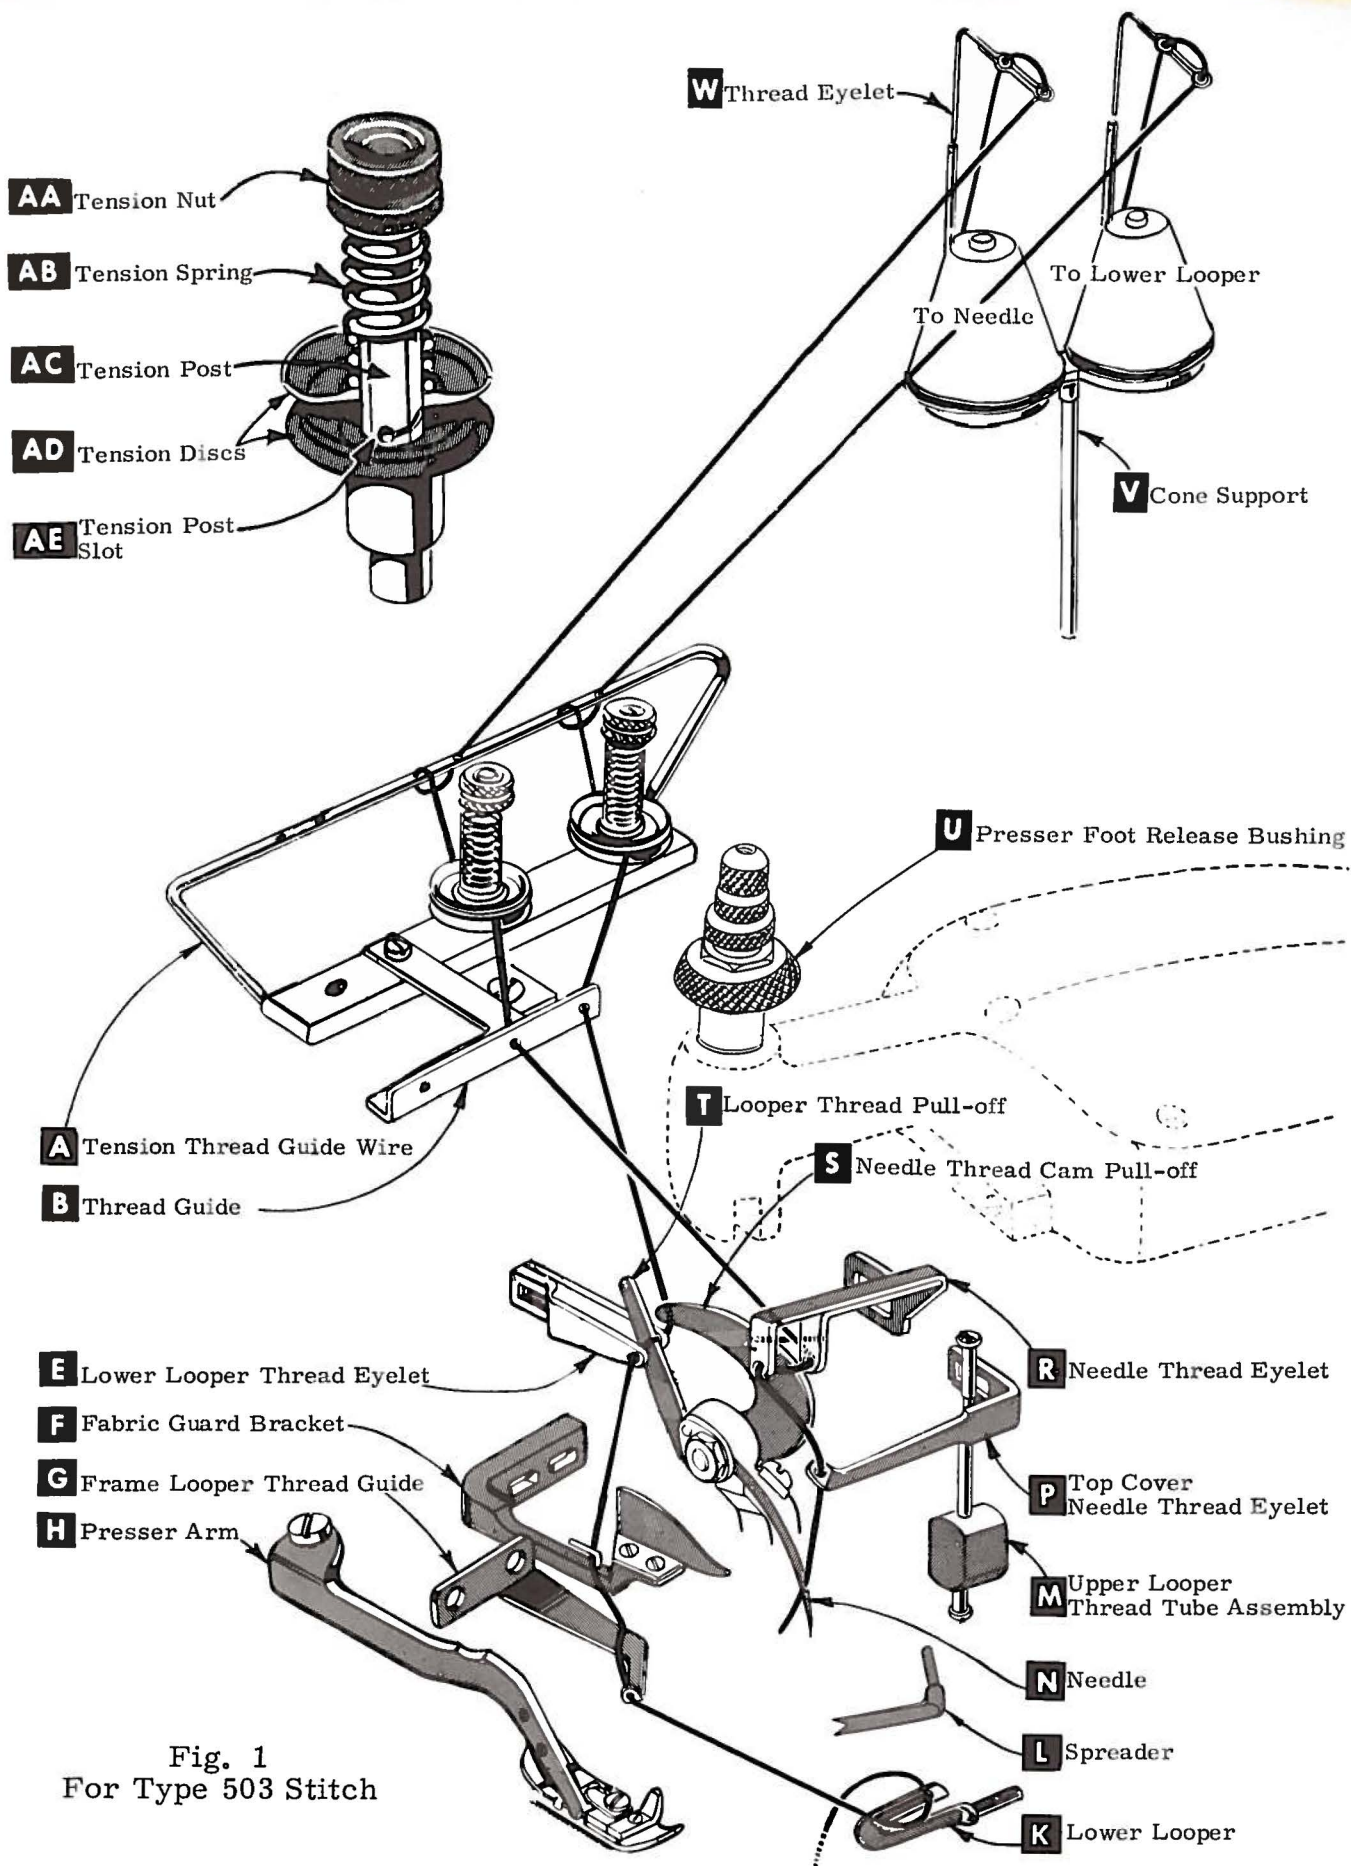
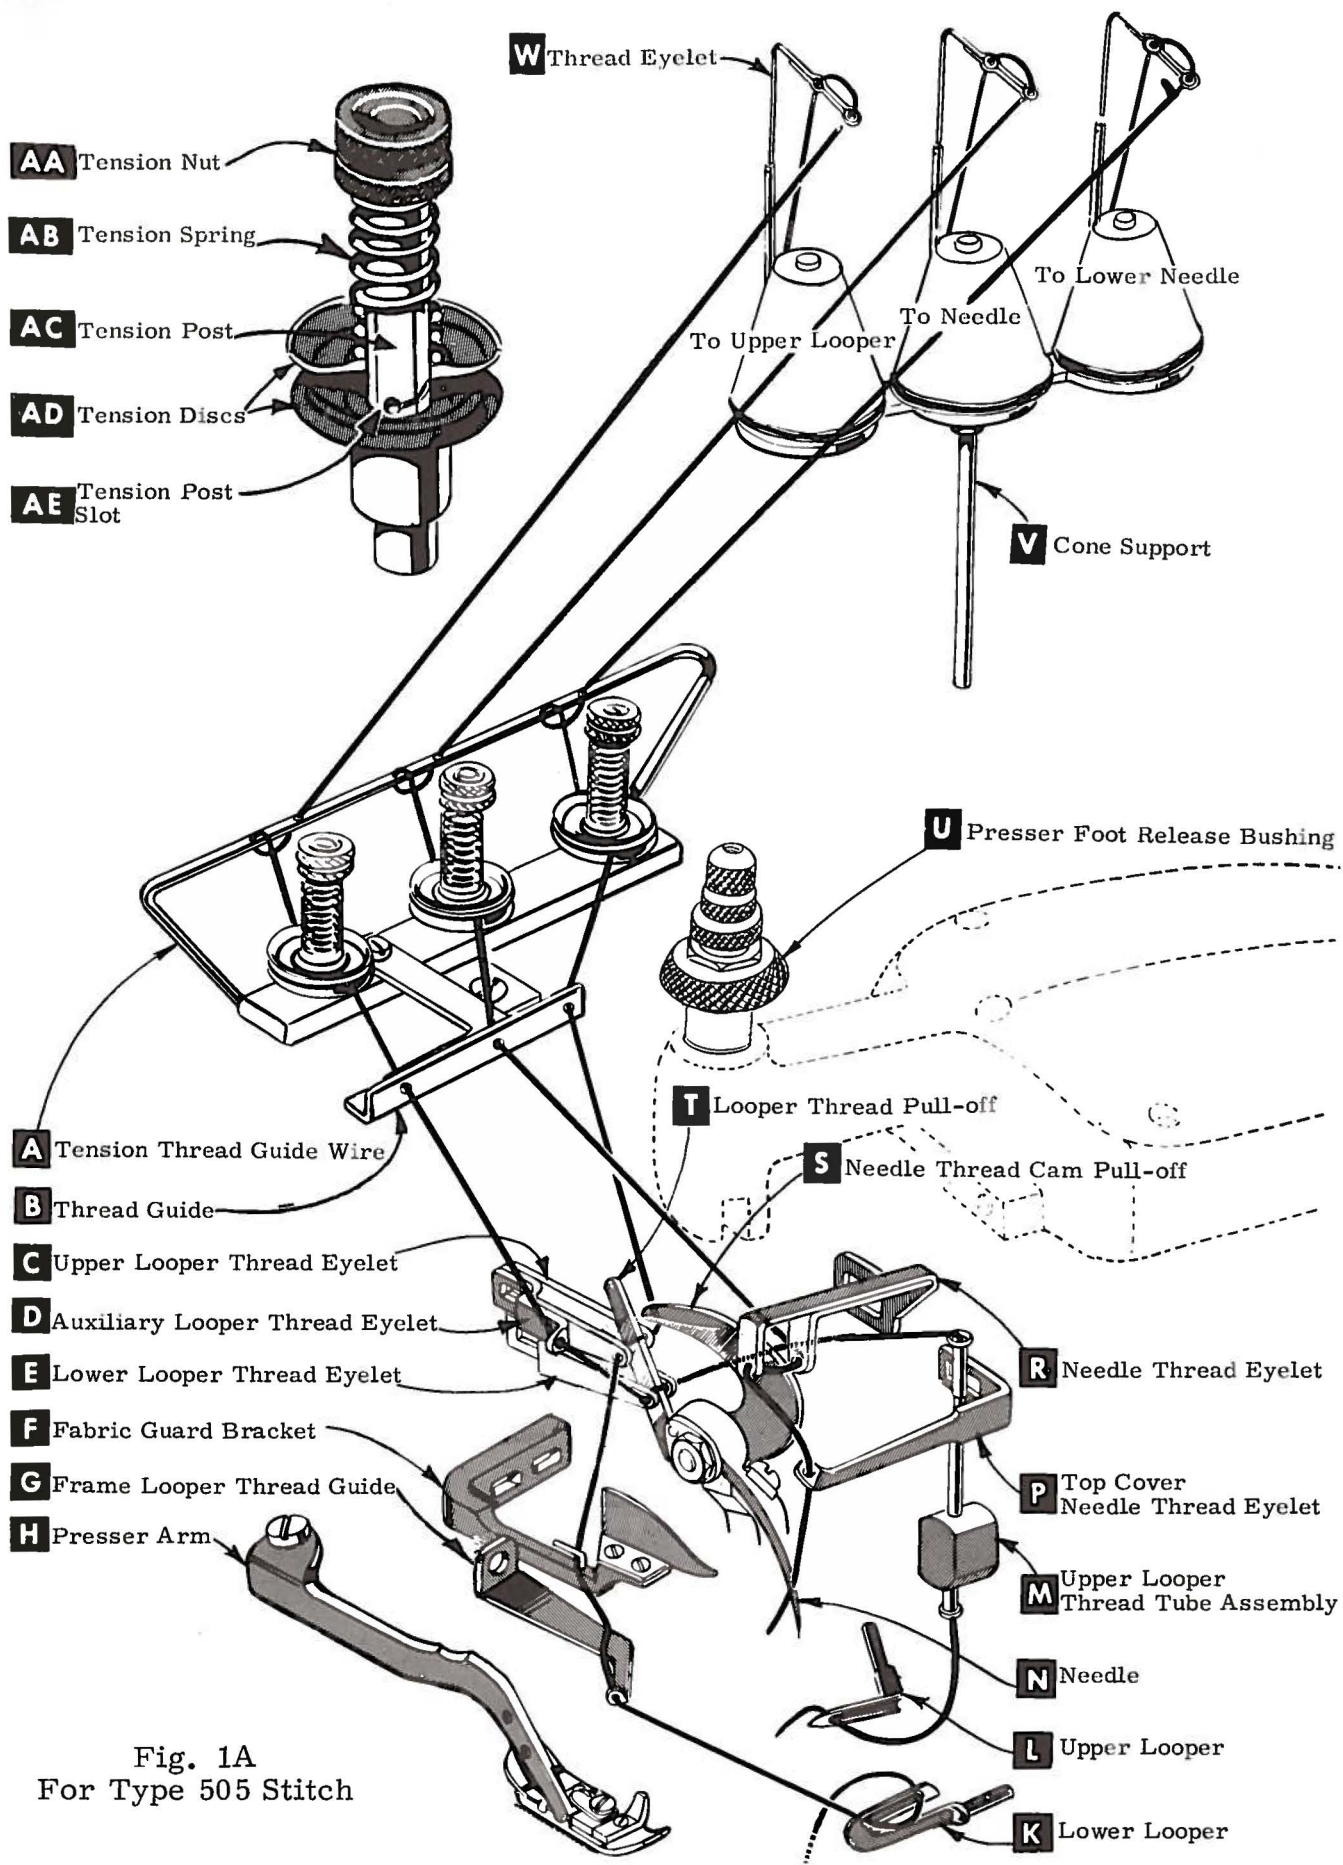

Fig. 1
Fig. 1A
Use threading diagram (Fig. 1) for Type 503 stitch, and use threading diagram (Fig. 1A) for Type 505 stitch.
Double end of thread and lead it through both eyes of upper looper thread eyelet (C, Fig. 1 and Fig. 1A) from right to left. Note: thread must pass in front of looper thread pull-off (T). Lead thread behind fabric guard (F) and through hole of frame looper thread guide (G). Turn handwheel in operating direction until heel of lower looper (K) is all the way to the left; then, thread through both eyes from left to right. Left eye of lower looper can be threaded easily if tweezers are in left hand.